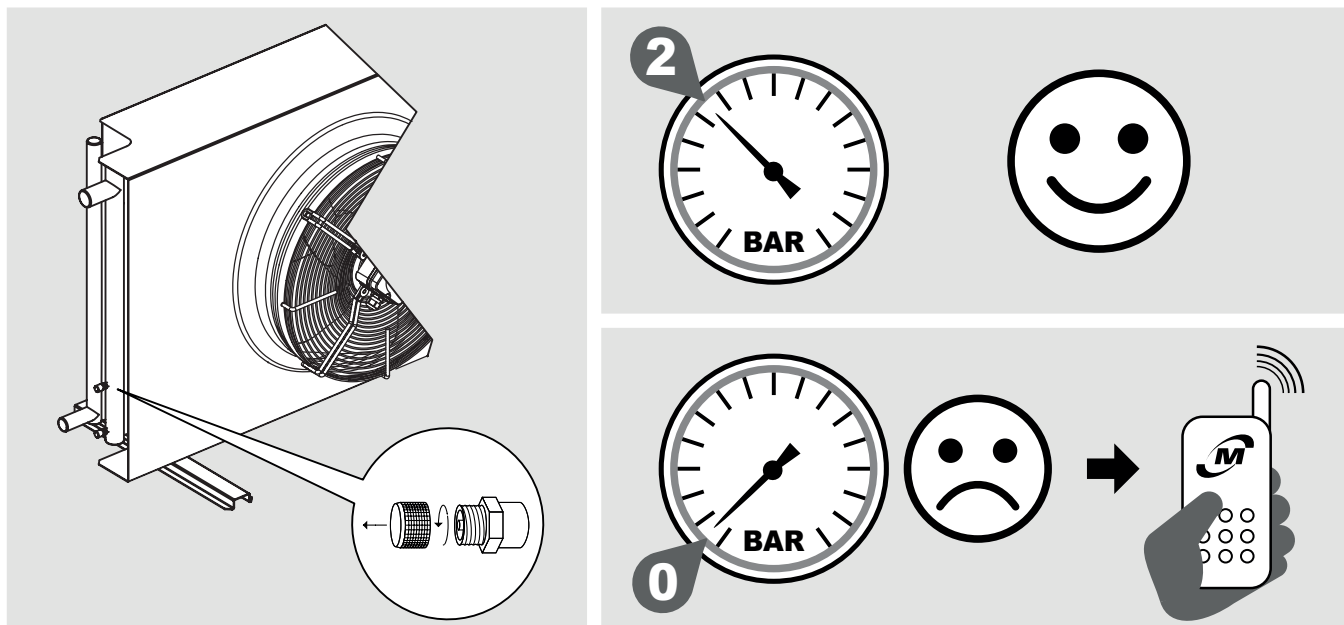

Figure 2
- 4.2 The heat exchangers of the condensers and the gas coolers are supplied with a pre-charge of dry air at 2 bar and have load couplings of 1/4" SAE. Check for the presence of pressure. In the absence of pressure immediately contact Modine and report the problem on the transport document. Insufficient pressure indicates a loss due to damage incurred during transportation. See Figure 2.